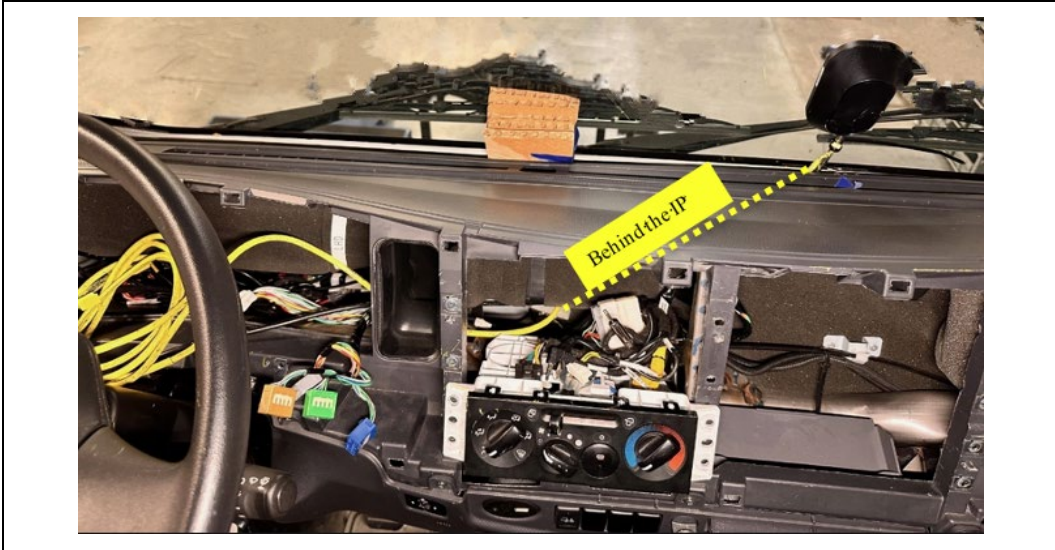

Figure 70
75. Route the new camera cable down, behind and under the instrument panel and HVAC duct toward the radio opening. If necessary, pull out the cup holder for more access. Grab the end of the camera cable and pull out the remaining length of cable. Loosely route the cable from the radio opening into the area behind the instrument panel cluster. (See Figure 70.)